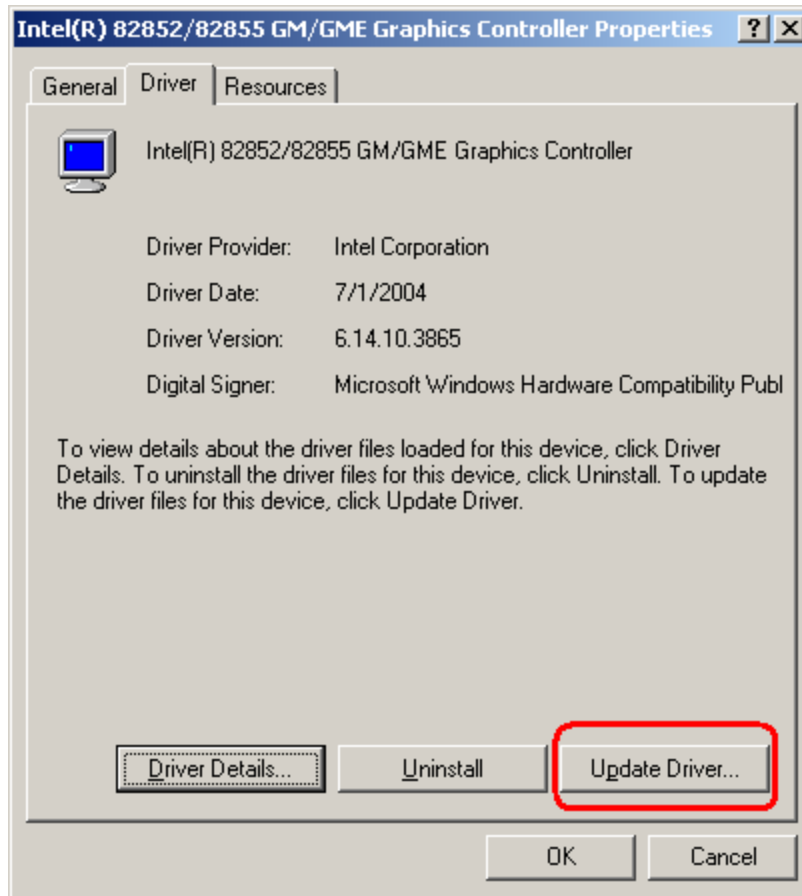

Figure 6-8: Update Driver
Step 6: From the **Driver** tab of the **Properties** window, click **Update Driver** (Figure 6-8) or, click **Reinstall Driver** if **Update Driver** is not seen.